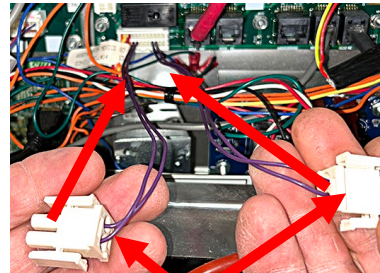

Figure 23 **LEFT RIGHT**
51. Disconnect both **LEFT** and **RIGHT** two-pin purple wire harnesses that are attached to the GREEN BUTTONS (see Figure 23 & 24).
switch attaches to the right pins on the SIB board (see Figures 23 & 24 above).